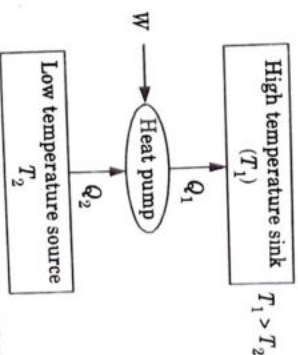

Fig. 2.17.1. A schematic diagram of a heat pump.
2. This transfer of heat from a low temperature body to a high temperature one is essentially a non-spontaneous process. And that calls for the help of an external work which is supplied to the heat pump (Fig. 2.17.1).